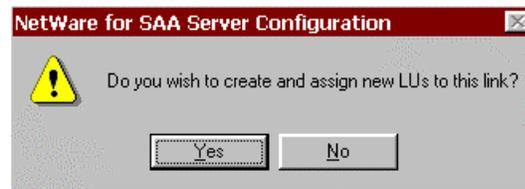

Figure 10-19. LU Prompt
8. Click **OK** to complete the Host Link definition. You will be prompted as to whether or not you wish to assign LUs to this link (Figure 10-19).